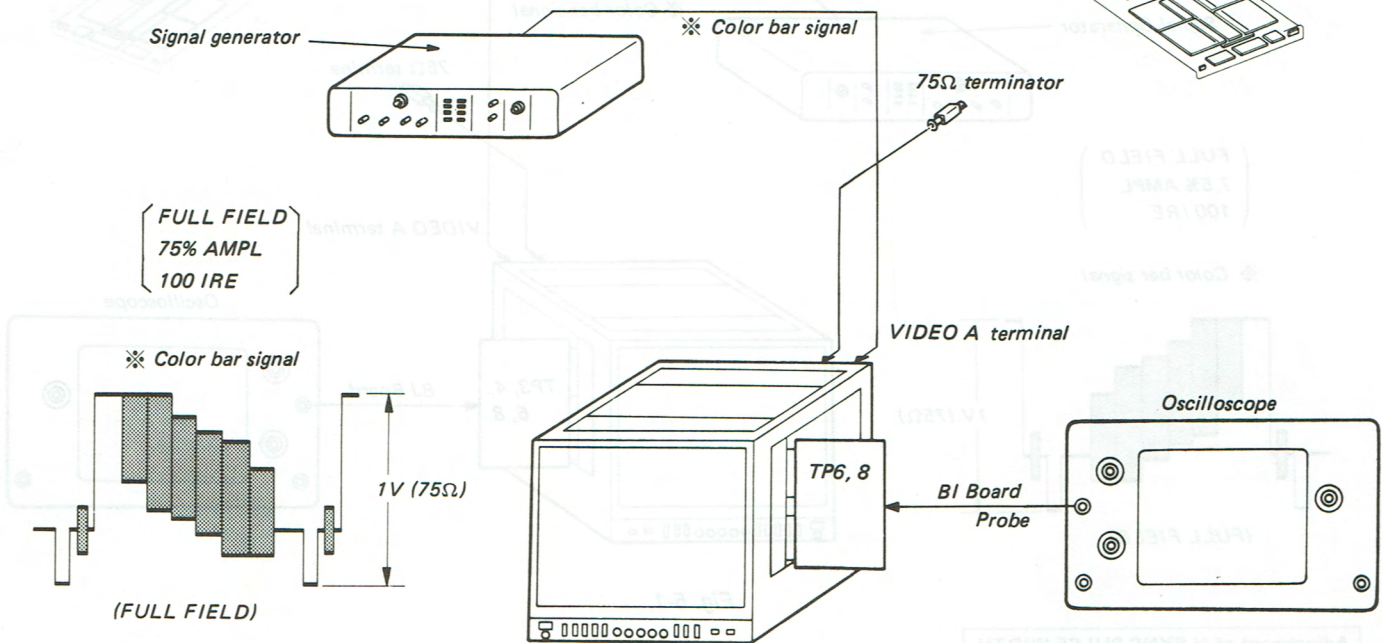

Fig. 6-1.
1. Connect as shown in Fig. 6-1.